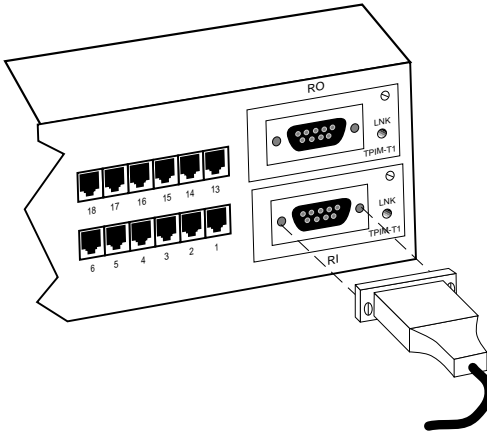

Figure 3-13. The TPIM-T1
1. Insert the DB9 connector on the segment into the DB9 port on the TPIM as shown in Figure 3-13.